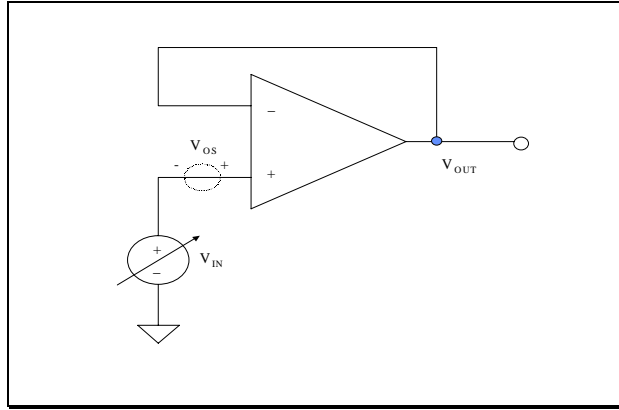

Figure 2.2a: Input CMR Voltage Measurement Circuit
1. Setup the non-inverting unity-gain op amp circuit shown in Figure 2.2a.